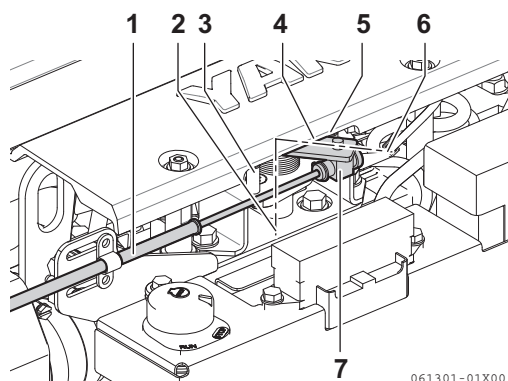

Figure 7
1. To adjust, loosen the adjustment screw (**Figure 7, (7)**) for the remote control cable and adjust.
2. Adjust the low-speed stop position (**Figure 7, (6)**) first and then adjust the high-speed stop position (**Figure 7, (2)**), with the adjustment screw on the remote control lever (**Figure 7, (4)**).